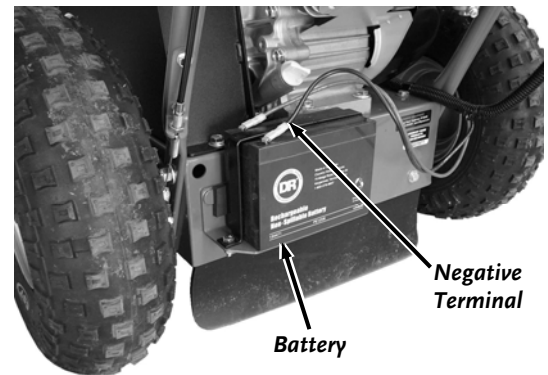

Figure 27
1. Connect the Black Negative Terminal onto the negative Battery Lug (**Figure 27**).